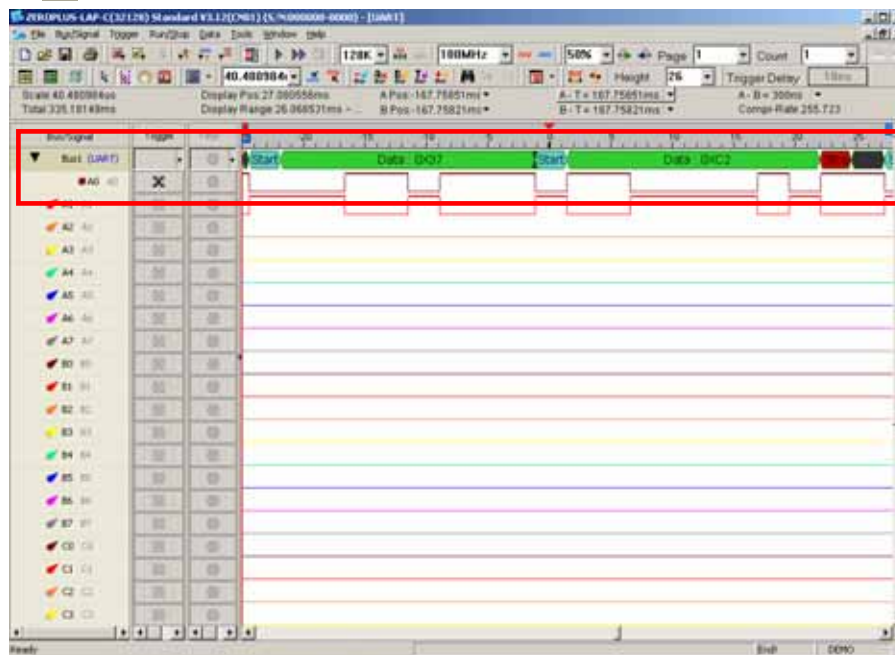

Fig 4-77 – Waveform Analysis
**Step6.** Click **Run** to acquire the UART signal from the tested UART circuit. Refer to Fig 4-77.